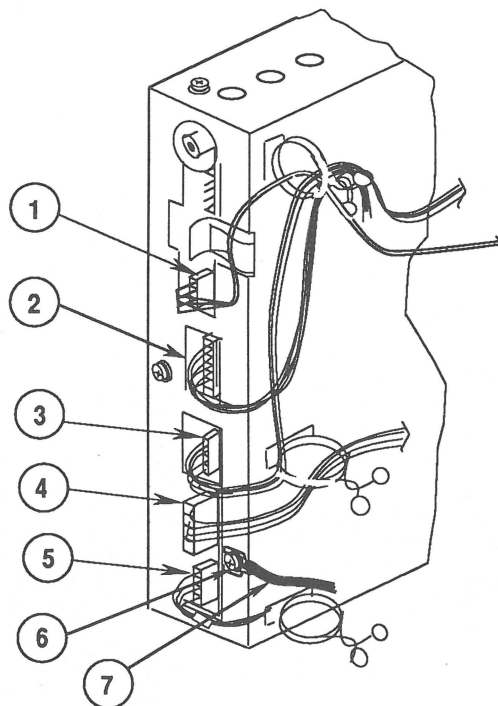

FIGURE 18
- 3-wire connector labeled **S** (Figure 18, #1)
- 6-wire connector labeled **C** (Figure 18, #2)
- 5-wire connector labeled **H** (Figure 18, #3)
- 3-wire connector labeled **K** (Figure 18, #4)
- 4-wire connector labeled **O** (Figure 18, #5)
6. Loosen the screw (Figure 18, #6) on the video board case, and remove the black ground cable (Figure 18, #7).